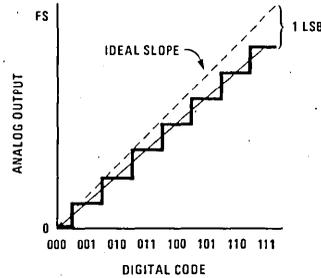
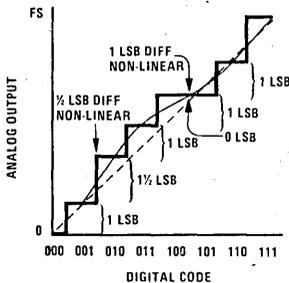
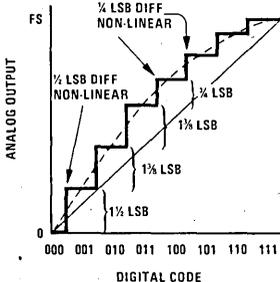
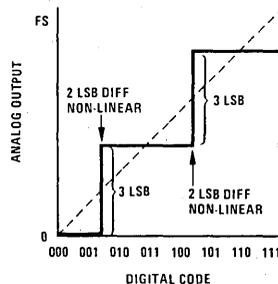

FIGURE 4. Linear, 1 LSB Scale Error
FIGURE 6.  $\pm\frac{1}{2}$  LSB Non-Linearity (Implies 1 LSB Possible Error), 1 LSB Differential Non-Linearity (Implies Monotonicity)
FIGURE 7.  $\frac{1}{4}$  LSB Non-Linear,  $\frac{1}{2}$  LSB Differential Non-Linearity
FIGURE 8.  $\pm 1$  LSB Linear,  $\pm 2$  LSB Differential Non-Linear
**Scale Error** (full scale error) is the departure from design output voltage of a DAC for a given input code, usually full-scale code. (See figure 4.) In an ADC it is the departure of actual input voltage from design input voltage for a full-scale output code. Scale errors can be caused by errors in reference voltage, ladder resistor values, or amplifier gain, *et. al.* (See **Temperature Coefficient.**) Scale errors may be corrected by adjusting output amplifier gain or reference voltage. If the transfer curve resembles that of figure 7, a scale adjustment at  $\frac{1}{4}$  scale could improve the overall  $\pm$  accuracy compared to an adjustment at full scale.
Figure 6 shows a 3-bit DAC transfer curve with no more than  $\pm\frac{1}{2}$  LSB non-linearity, yet one step shown is of zero amplitude. This is within the specification, as the maximum deviation from the ideal straight line is  $\pm 1$  LSB ( $\frac{1}{2}$  LSB resolution error plus  $\frac{1}{2}$  LSB non-linearity). With any linearity error, there is a differential non-linearity (see below). A  $\pm\frac{1}{2}$  LSB linearity spec guarantees monotonicity (see below) and  $\leq \pm 1$  LSB differential non-linearity (see below). In the example of figure 6, the code transition from 100 to 101 is the worst possible non-linearity, being the transition from 1 LSB high at code 100 to 1 LSB low at 110. Any fractional non-linearity beyond  $\pm\frac{1}{2}$  LSB will allow for a non-monotonic transfer curve. Figure 7 shows a typical non-linear curve; non-linearity is  $\frac{1}{4}$  LSB yet the curve is smooth and monotonic.
**Differential Non-Linearity** indicates the difference between actual analog voltage change and the ideal (1 LSB) voltage change at any code change of a DAC. For example, a DAC with a 1.5 LSB step at a code change would be said to exhibit  $\frac{1}{2}$  LSB differential non-linearity (see figures 6 and 7). Differential non-linearity may be expressed in fractional bits or in % FS.
Differential linearity specs are just as important as linearity specs because the apparent quality of a converter curve can be significantly affected by differential non-linearity even though the linearity spec is good. Figure 6 shows a curve with a  $\pm\frac{1}{2}$  LSB linearity and  $\pm 1$  LSB differential non-linearity while figure 7 shows a curve with  $+\frac{1}{4}$  LSB linearity and  $\pm\frac{1}{2}$  LSB differential non-linearity. In many user applications, the curve of figure 7 would be preferred over that of figure 6 because the curve is smoother. The differential non-linearity spec describes the smoothness of a curve; therefore it is of great importance to the user. A gross example of differential non-linearity is shown in figure 8 where the linearity spec is  $\pm 1$  LSB and the differential linearity spec is  $\pm 2$  LSB. The effect is to allow a transfer curve with grossly degraded resolution; the normal 8-step curve is reduced to 3 steps in figure 8. Similarly, a 16-step curve (4-bit converter) with only 2 LSB differential non-linearity could be reduced to 6 steps (a 2.6-bit converter?). The real message is, "Beware of the specs." Do not ignore or omit differential linearity characteristics on a converter unless the linearity spec is tight enough to guarantee the desired differential linearity. As this characteristic is impractical to measure on a production basis, it is rarely, if ever, specified, and linearity is the primary specified parameter. Differential non-linearity can always be as much as twice the non-linearity, but no more.